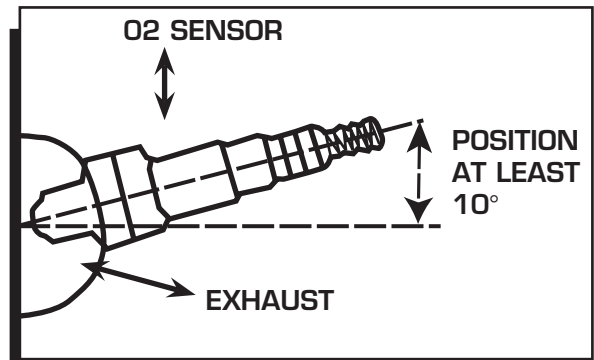

Figure 1 WBO2 Sensor Location.
- b. The WBO2 sensor should be at least 10° above horizontal to allow condensation runoff. Without this angle the sensor is significantly more likely to sustain water damage (Figure 1).